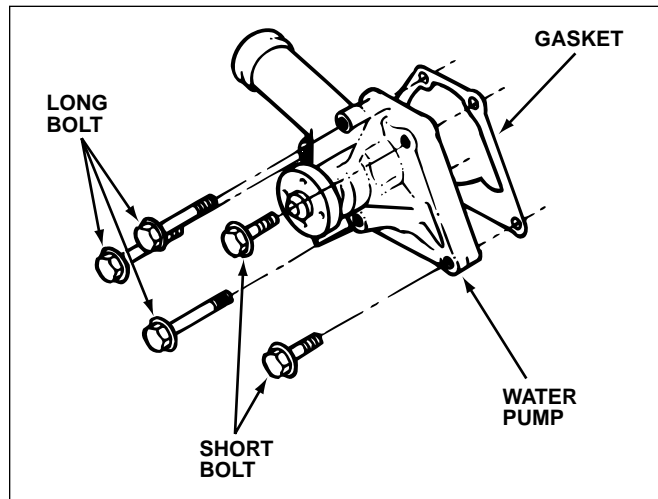

Fig. 4-16. Water pumps often attach to the block with different length bolts. Be sure to install them correctly.
- Note the locations of bolts of different lengths. These must be returned to their original position, figure 4-16